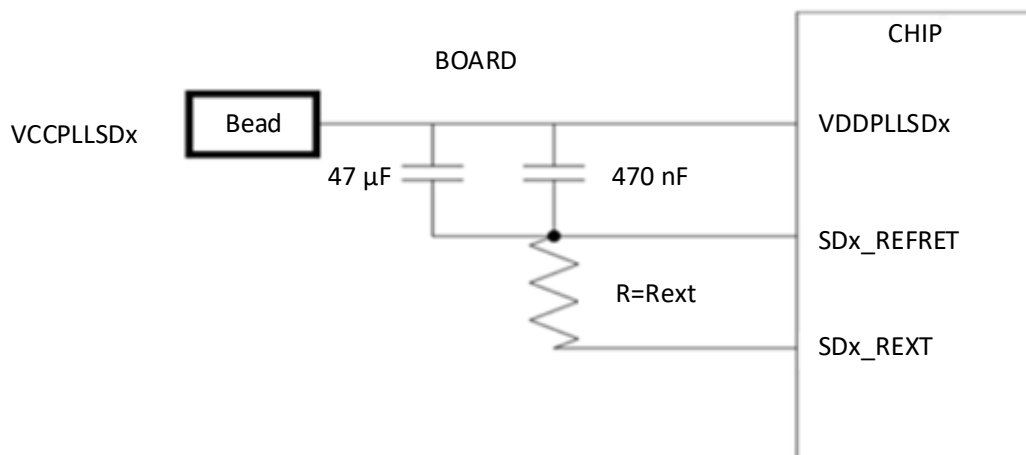

Figure 13.1. Example Connection to Analog Power and Reference Pins
- The power and ground traces should be short, and run close and parallel as far as possible, with large spacings to adjacent traces. On no account should any connection be made from VCCPLLSDx or SDx_REFRET directly to board power planes; only connect as described above and depicted in Figure 13.1.